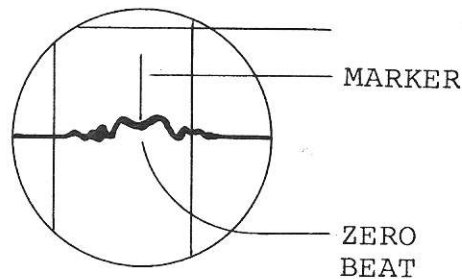

Fig. 5-5 Marker checking.
3. Set the SG1 frequencies for zero beat condition at the different mark-frequencies in the respective FREQUENCY bands, see Fig. 5-5.